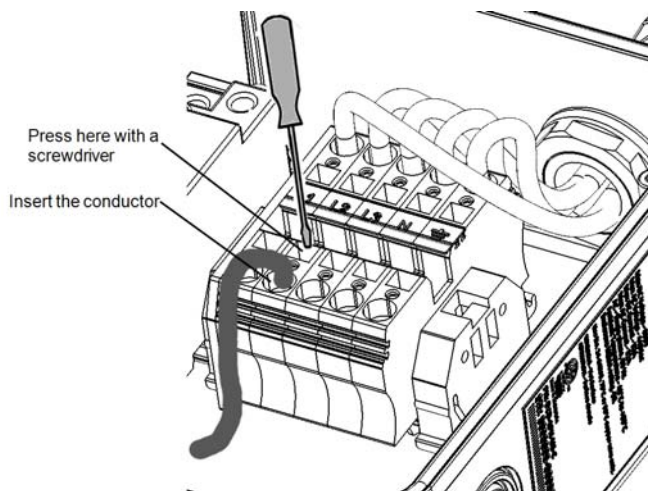

Figure 28: DC Spring-clamp terminal – three phase inverter
- Use a standard flat-blade screwdriver to connect the wires to the spring-clamp terminals (See Figure 28).